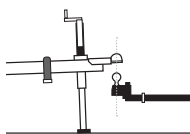

Figure 28
1. With the Fastway hitch head installed, position the hitch ball directly under the trailer coupler. (Figure 28)